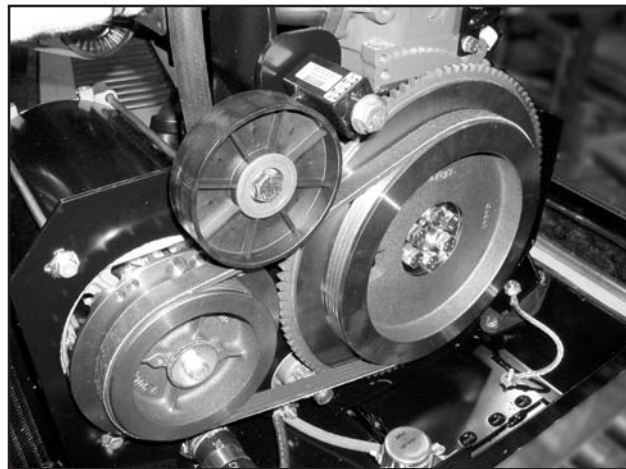

Figure 8-4. – Drive Belt Tensioner
1. Install drive belt tensioner as shown in Figure 8-4. Snug mounting bolt but do not tighten.